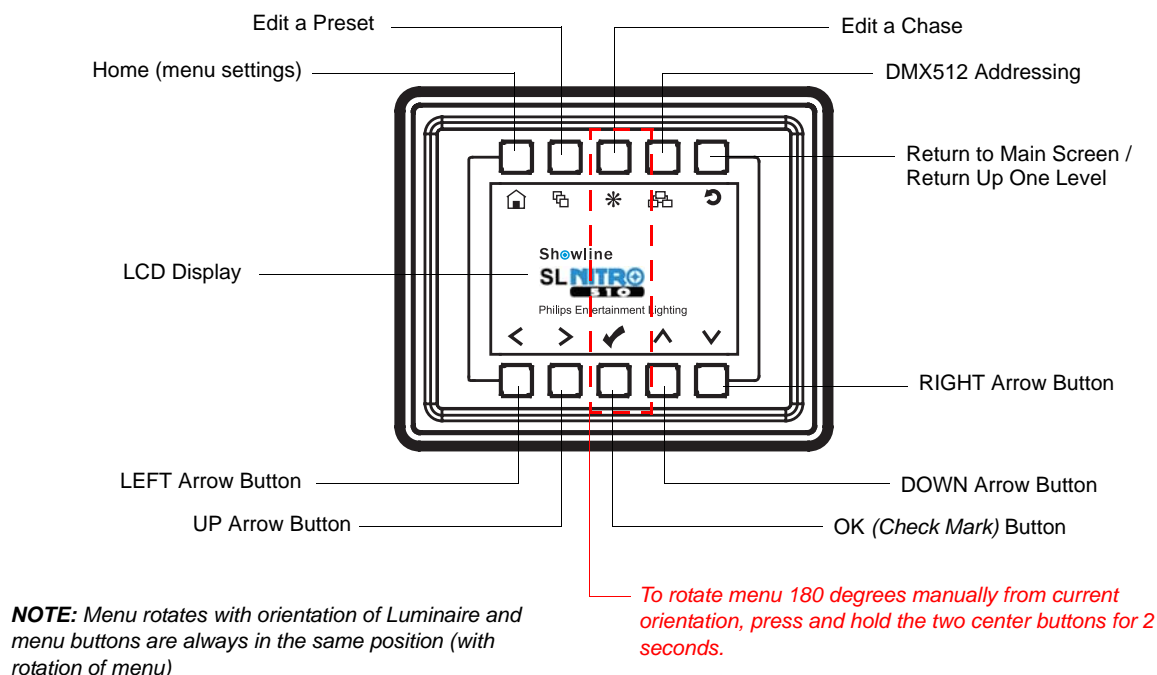

Figure 13: LCD Display and Menu System
- Step 2. Press the desired button (as shown in **Figure 13 on page 17**) to access menu categories.
- Step 5. Press CHECK MARK (OK) button to accept changes.